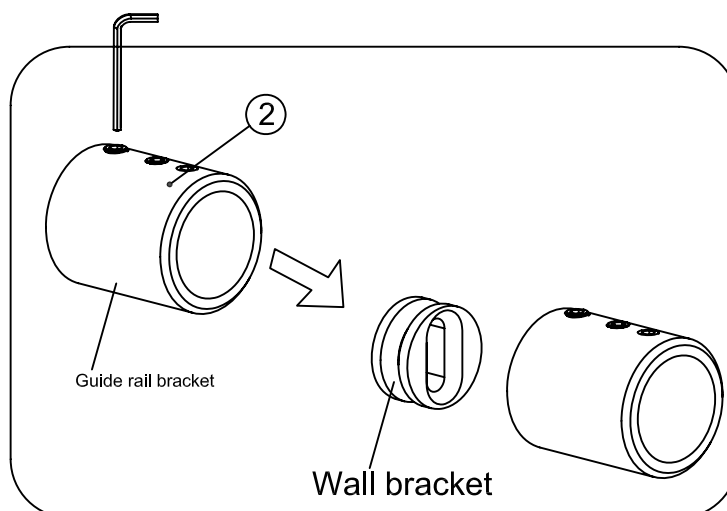

Fig 5
5.1. Loosen the screw on Guide Rail Bracket (02), pull out the wall bracket. Please see Fig 5 for details